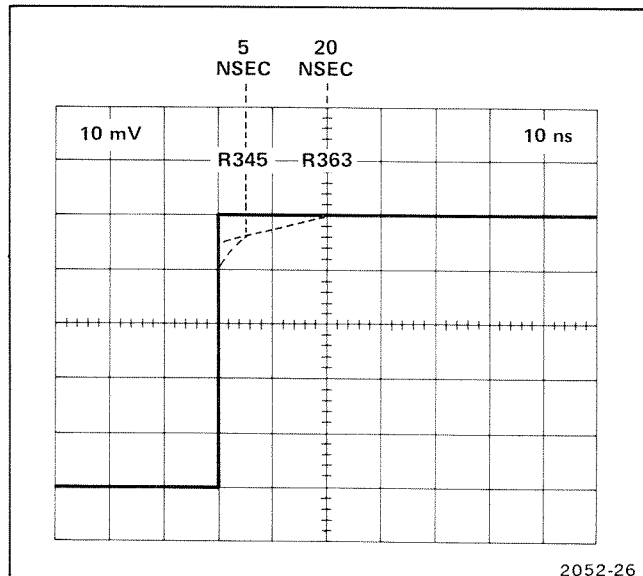

Fig. 6-2. Typical display of correct adjustment of HF Comp.
- ADJUST—R345, HF Comp, for flat top in the first 10 ns of the displayed square wave (see Fig. 6-2).
- ADJUST—R363, HF Comp, for flat top in the first 20 ns of the displayed square wave (see Fig. 6-2).